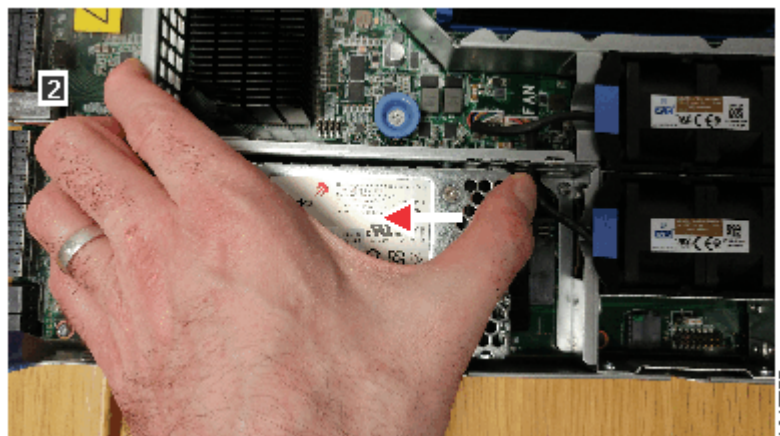

Figure 90. Sliding the node battery out of its position
7. Slide the node battery toward the latch until it stops, as shown in Figure 90 on page 131.